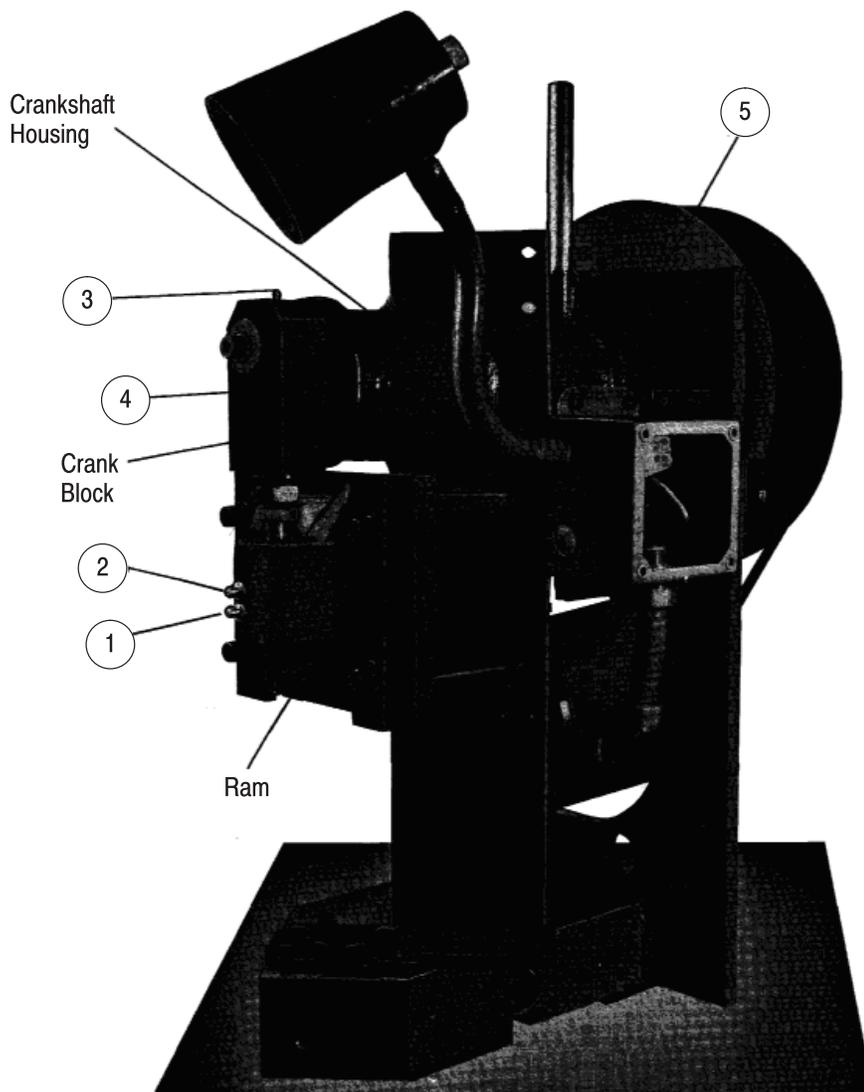

Figure 5
A. Crankshaft-Ram Group (Figure 5)